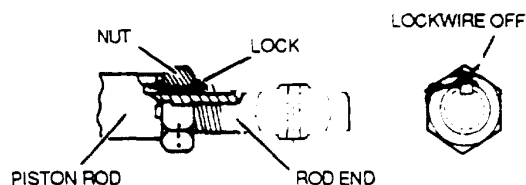

Figure 2-82. Rod End Safetying (Key Type NAS 559)
h. Rod End Safetying. Lockwire rod end (key type NAS559), as shown in figure 2-82.
(1) Breakaway torque Breakaway torque (table 2-8) is defined as minimum torque required to start the movement of a nut on or off bolt with no axial load on the nut and with the bolt completely through the nut.
(2) Friction torque (tare, drag, run on). Friction torque is the torque required to overcome the internal friction between a self-locking nut and bolt as the nut is being turned on the bolt, but before the nut contacts the washer (no axial load).
(3) Final torque. Final torque is the sum of the friction torque plus the applicable torque values from table 2-9 or friction torque plus torque from the applicable maintenance manual.
(4) Break-loose torque Break-loose torque is defined as the effort to break loose an axially loaded nut.